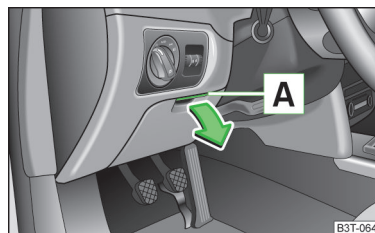

Fig. 79
- Raise the handle **A** > Fig. 79 and open out the compartment in the direction of the arrow.